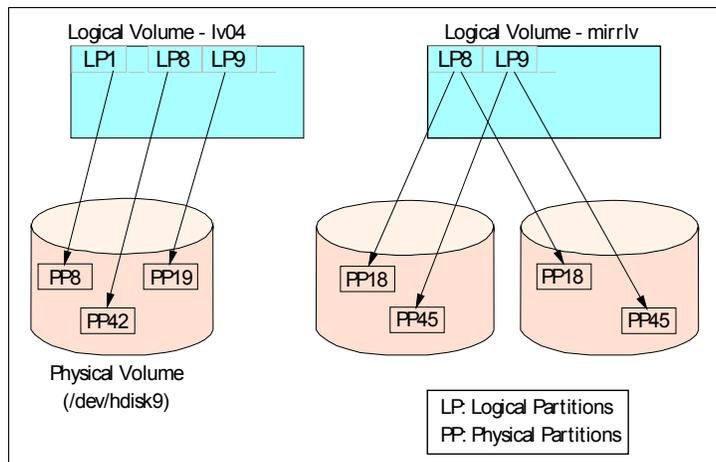

Figure 2-22 Relationships between LP and PP
- ▶ Every physical volume in use belongs to a volume group (VG) unless it is being used as a raw storage device.
- ▶ Each logical volume consists of one or more logical partitions (LPs). Each logical partition corresponds to at least one physical partition (see Figure 2-22). If mirroring is specified for the logical volume, additional physical partitions are allocated to store the additional copies of each logical partition.